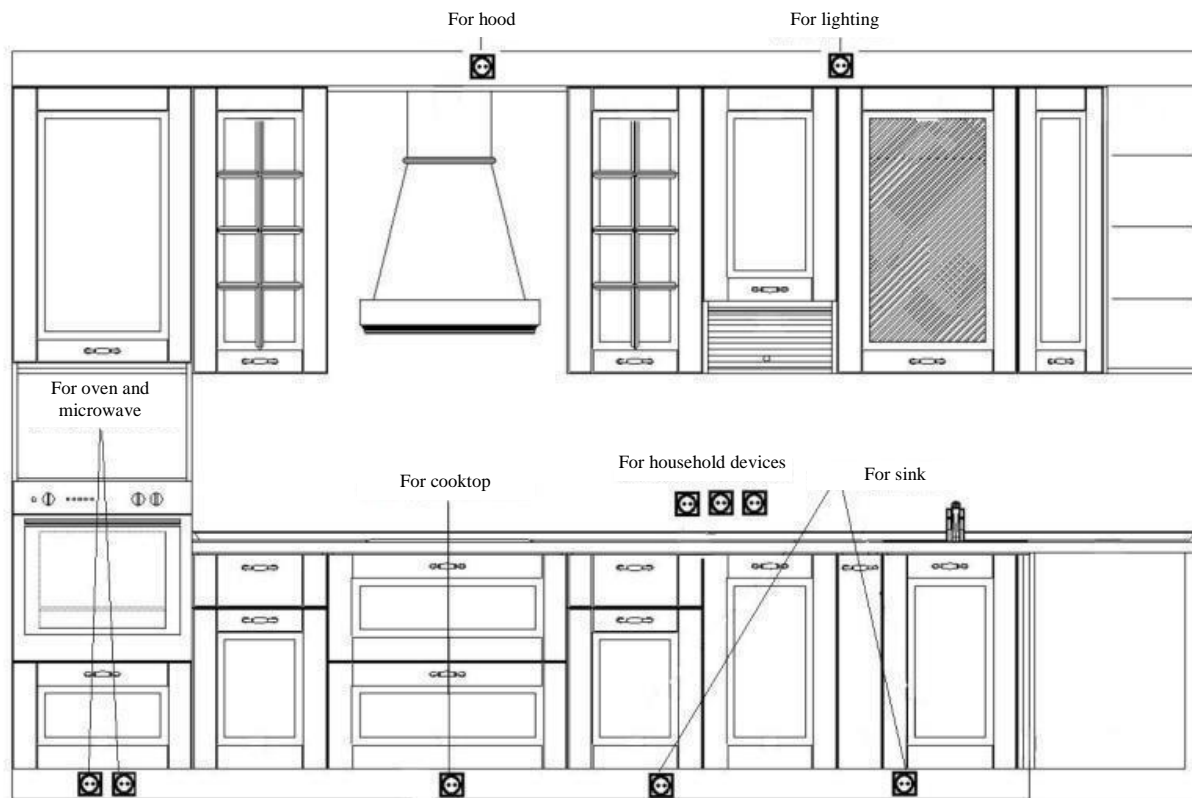

Fig. 2
- It is recommended to install sockets for built-in household appliances at a height up to 100 mm from the floor to the higher edge of the socket (Fig. 2).
- It is recommended to install sockets for built-in household appliances above the worktop (Fig. 2).
- It is advisable to install the sockets for connection of hood mechanisms at a height of 100 mm from the upper edge of wall cabinets (Fig. 2).